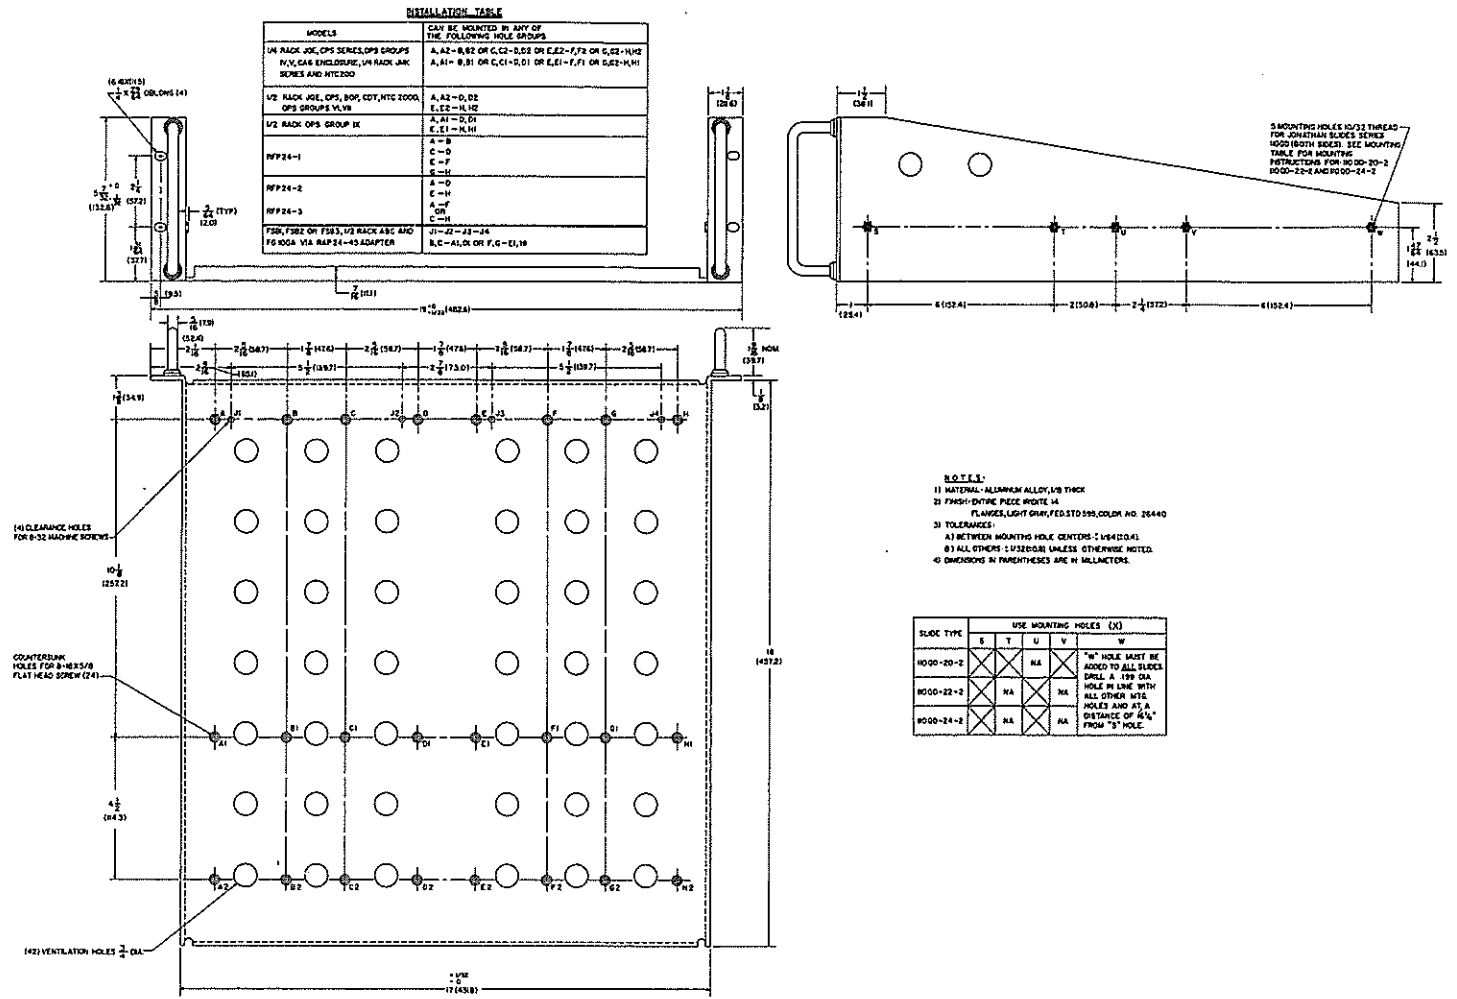

FIG. 3 MECHANICAL OUTLINE DRAWING.
The Kepco Model RA-24 Rack Adapter may be rigidly mounted to the equipment rack, or it can be mounted with chassis slides. The front flanges of the RA-24 are drilled for standard (2¼") mounting hole dimensions while the sides are drilled and tapped for "JONATHAN" slides (See FIG. 3).
- 2) Refer to FIG. 3 "Mechanical Outline Drawing". The "Installation Table" in FIG. 3 lists the Kepco equipment which can be installed into the RA-24 and the associated mounting hole pattern.
- 3) Use four (4) of the supplied mounting screws per unit to be installed and fasten unit to the RA-24.
- 4) Install (optional) filler panels, filler support brackets and chassis slides as required. The mounting holes for these components are identified in the "Installation Table" in FIG. 3.